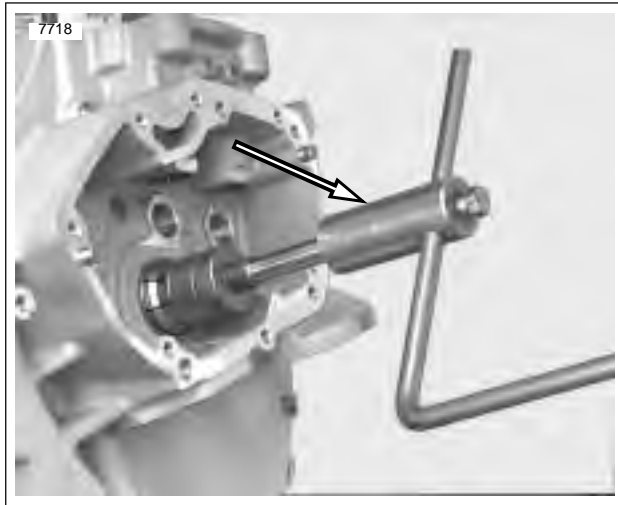

Figure 3-131. Lapping Pinion Shaft Main Bearing Using Crankcase Main Bearing Lapping Tool (Part No. HD-96710-40B)
2. See Figure 3-131. Obtain CRANKCASE MAIN BEARING LAPPING TOOL (Part No. HD-96710-40B). Assemble CRANKCASE MAIN BEARING LAP (Part No. HD-96718-87) to lapping handle. Assemble guide sleeve to sprocket shaft bearing bushing. Sleeves, for use with tapered bearing, are assembled to case with bearings and small spacer collar. Finger-tighten the sleeve parts.